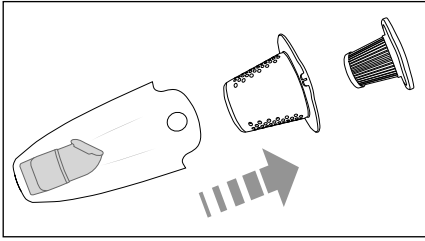

Fig. 5
- 3) Pull the EPA filter **7** and the coarse filter **8** out of the dirt container **9** (Fig. 5). Tap out both filters **7/8** into a waste container. If necessary, you can rinse out the filters **7/8** with fresh water. Allow the filters **7/8** to air dry fully afterwards before re-inserting them.